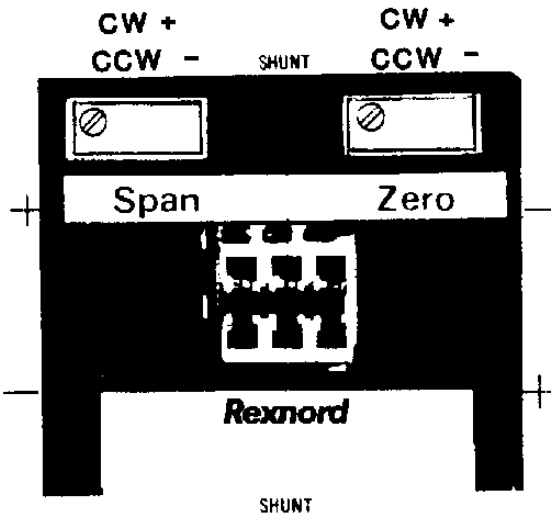

Figure 4-2. Edge Connector on Remote Calibration Unit
2. Plug the calibration meter into the card edge connector shown in Figure 4-2 (refer to Section 4.2.1.3).